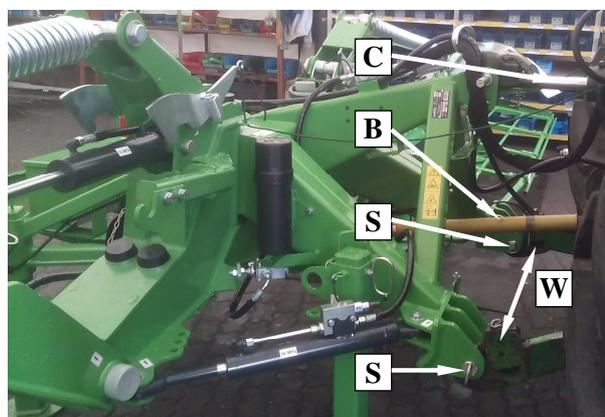

Fig. 12. Connecting mower to the tractor
- install pins (**S**) of the mower in hangers (**W**) of tractor's lower links (**Fig. 12**),
- mount PTO shaft (**B**) (**Fig. 12**). If needed, shorten the shaft as in 5.1.2,